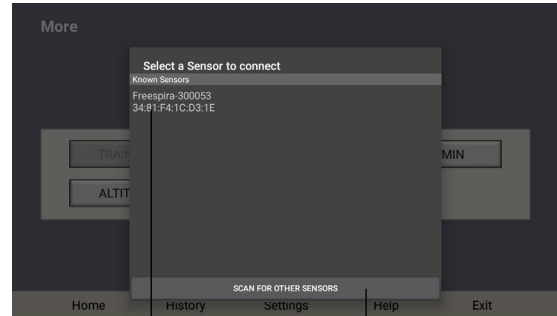

FIGURE 24
- Sensors available for connection will appear in a pop-up list (Figure 24).